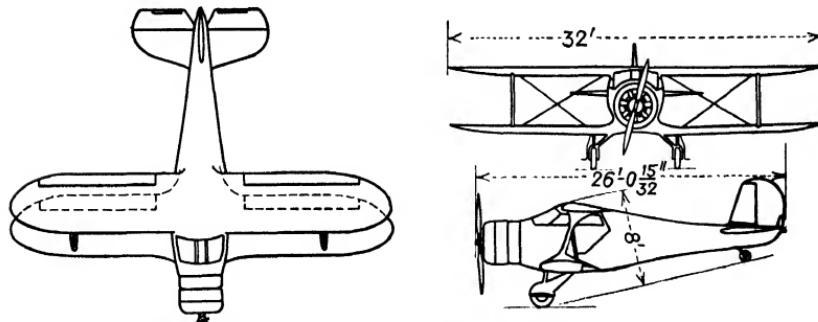

Fig. 171.—Beech Beechcraft D five-place biplane. (Courtesy of Aviation.)
- 1.** Find the wing and power loading of the airplane in Fig. 171, which has the following specifications: